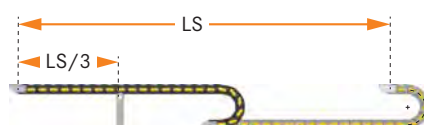

Fig. 3
Vertical separator for "T" and "L" shape (Fig. 3)
- Supported application with 1 support roller on the extended side of the stroke →  $SSL = LS/3$  (single support roller should be positioned at a distance of  $LS/3$  from the extended end of the stroke) (**Fig. 3**)